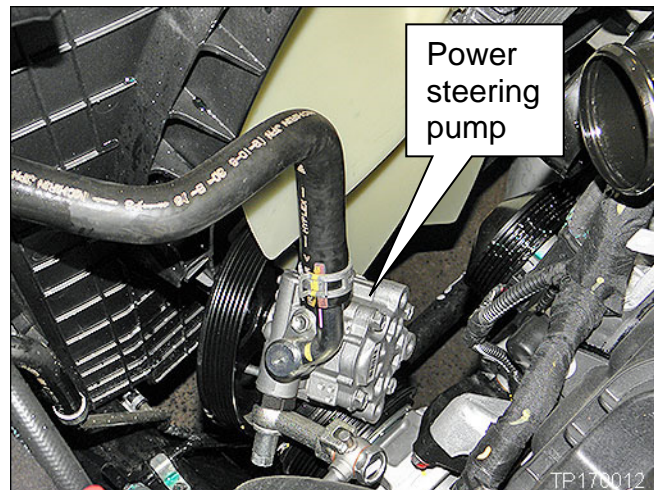

Figure 1
- Figure 1 shows the power steering pump positioned out of the way.